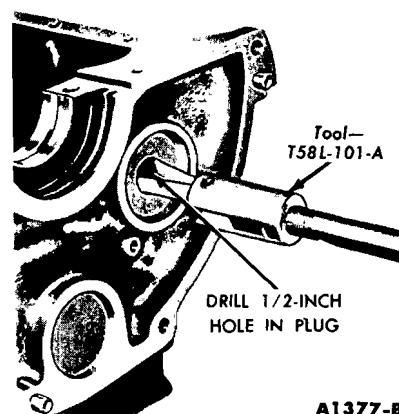

FIG. 37—Camshaft Rear Bearing Bore Plug Removal
3. Drill a 1/2-inch hole in the camshaft rear bearing bore plug and use tool T58L-101-A to remove the plug (Fig. 37).